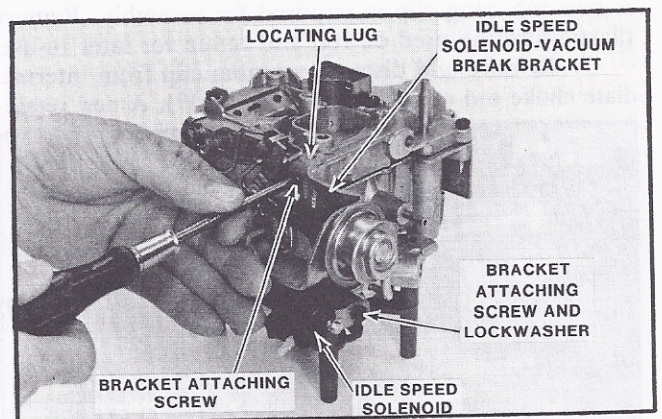

FIGURE 15 VACUUM BREAK REMOVAL - L4
3. Remove idle speed solenoid-vacuum break bracket attaching screws from air horn and throttle body (Figure 15 and 16). Then, on L-4 models rotate bracket to remove vacuum break rod and air valve rod from vacuum